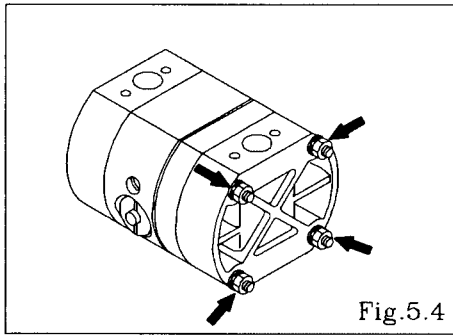

Fig.5.4
See [8. Exploded View] on after p.12. (Fig. 5.4, 5.5 and 5.6 show the NDP-5 FPT.)
- Remove the 8 (12 on the NDP-15) retainer nuts from the out chamber, and remove the out chamber. [Fig.5.4]